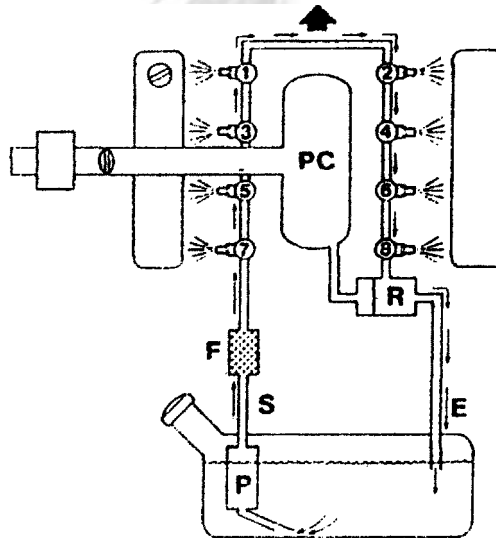

Fig.1.1 Fuel System
The electric pump (P) draws fuel from the fuel tank (see fig.1.1). The pump passes the fuel along the fuel supply pipe (S), through a fine mesh (2 micron) in-line filter (F) to the injector rail and injectors (1 - 8). Fuel pressure is controlled by the regulator (R) and excess fuel returns to the fuel tank via the return pipe (E).